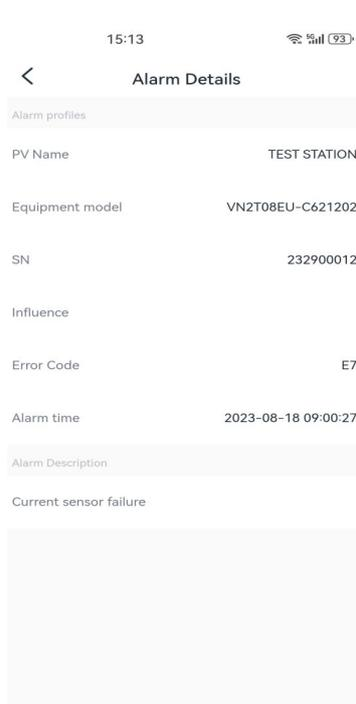

Figure 8.4.2
- Click on an exception message to enter the alarm details page, where you can see the alarm description, detailed description of the alarm and video. (As shown in Figure 8.4.2)